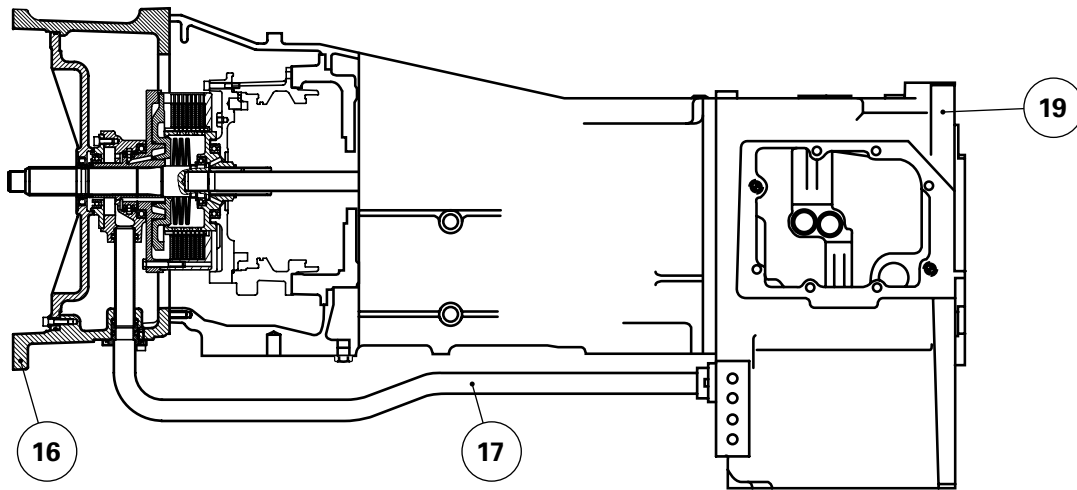

Fig. 2
15. Remove the chassis reinforcements located either side of the Heavy Duty gearbox (if installed, see section 2F01). Remove clutch lube pipe (17) located between the intermediate housing (19) and spacer (16) (Fig. 2 - 2A) (Heavy Duty gearbox).